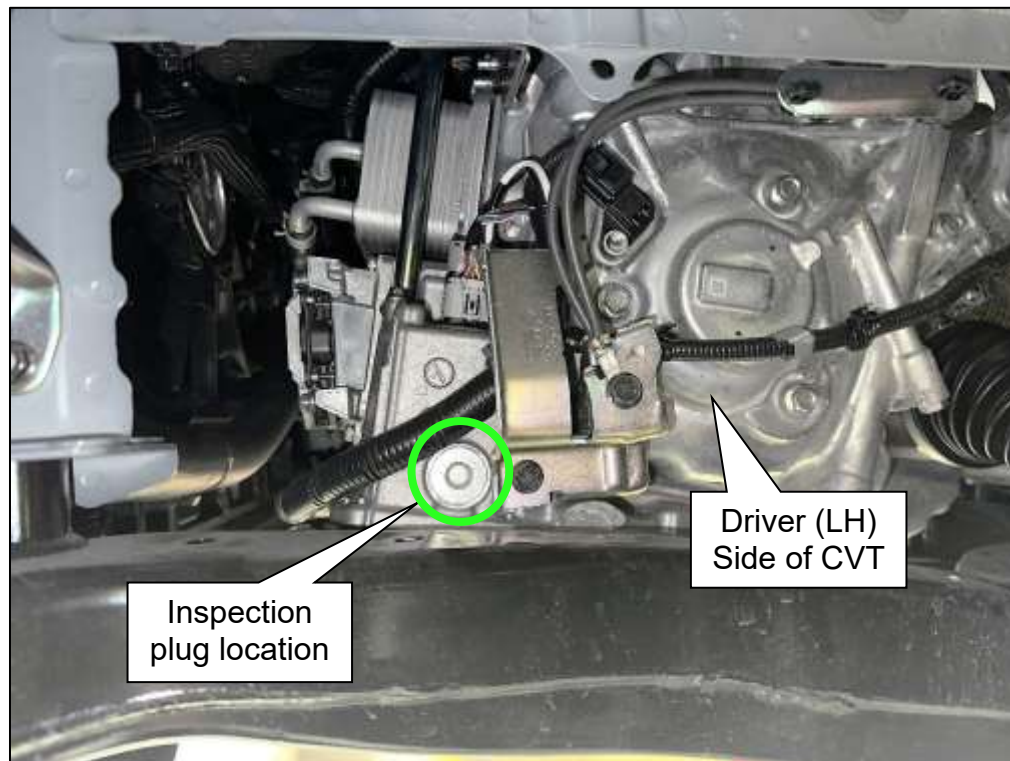

Figure 8
11. Remove the plug (inspection plug) located on the driver (LH) side of the CVT (Figure 8).